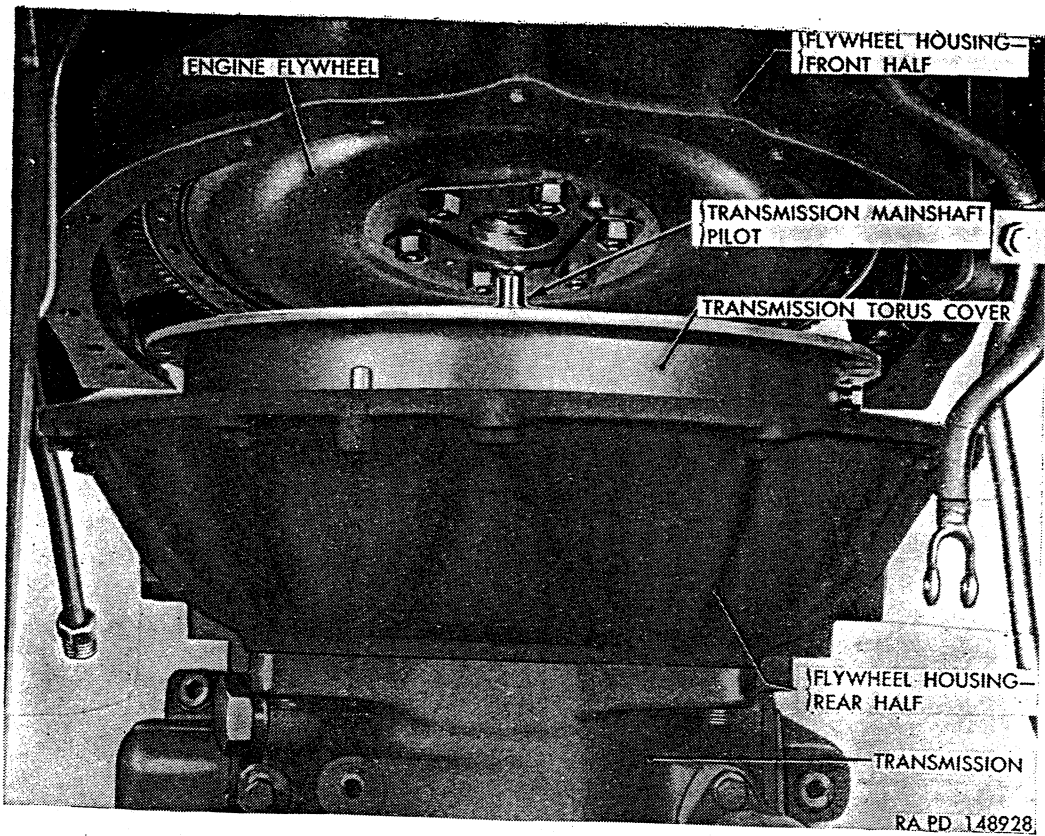

Figure 207. Removing transmission from engine.
- (2) Remove flywheel housing rear half to front half attaching parts. With transmission positioned on saddle jack to support its weight, remove nine cap screws, one nut, and nine lockwashers attaching flywheel housing rear half to front half. Leave flywheel housing front half bolted to engine.
- (3) Remove transmission from vehicle. Carefully move transmission away from engine a short distance for clearance as shown in figure 207; then lower jack with transmission to floor. Remove transmission from beneath vehicle; then using lifting eye-bolts A266327 (fig. 76) in holes in top of transmission and reduction unit, lift transmission and position on work bench or suitable repair stand. Remove pilot bearing spacer from end of transmission input shaft.
transmission (fig. 207) so input shaft pilot is aligned with pilot bearing in crankshaft, and holes in flywheel housing rear half are aligned with guide studs.